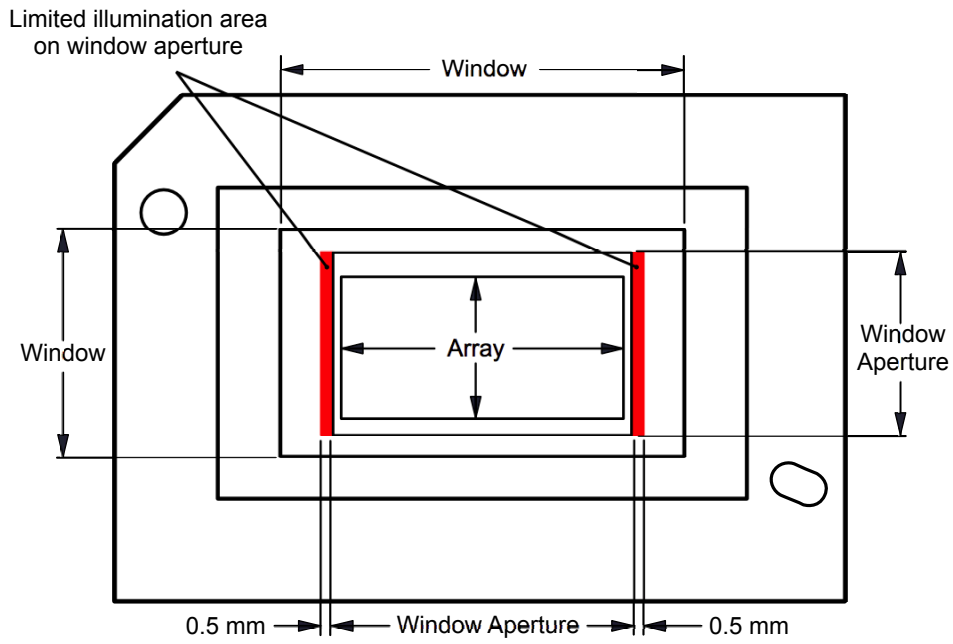

Figure 1. Illumination Overfill Diagram
- (3) All voltage values are with respect to the ground pins (VSS).
- (4) VOFFSET supply transients must fall within specified max voltages.
- (5) To prevent excess current, the supply voltage delta |VDDI – VDD| must be less than the specified limit.
- (6) To prevent excess current, the supply voltage delta |VBIAS – VOFFSET| must be less than the specified limit.
- (7) Refer to the SubLVDS timing requirements in Timing Requirements.
- (8) Temperature Diode is to allow accurate measurement of the DMD array temperature during operation.
- (9) DMD Active Array temperature can be calculated using the TMP411 and DLPC230-Q1 as shown in the Micromirror Array Temperature Calculation section.
- (10) The maximum operation conditions for operating temperature and UV illumination shall not be implemented simultaneously.
- (11) Operating profile information for device micromirror landed duty-cycle and temperature may be provided if requested.
- (12) The active area of the DLP5531-Q1 device is surrounded by an aperture on the inside of the DMD window surface that masks structures of the DMD device assembly from normal view. The aperture is sized to anticipate several optical conditions. Overfill light illuminating the area outside the active array can scatter and create adverse effects to the performance of an end application using the DMD. The illumination optical system should be designed to minimize light flux incident outside the active array. Depending on the particular system's optical architecture and assembly tolerances, the amount of overfill light on the outside of the active array may cause system performance degradation.
- (13) Applies to the two regions in Figure 1.